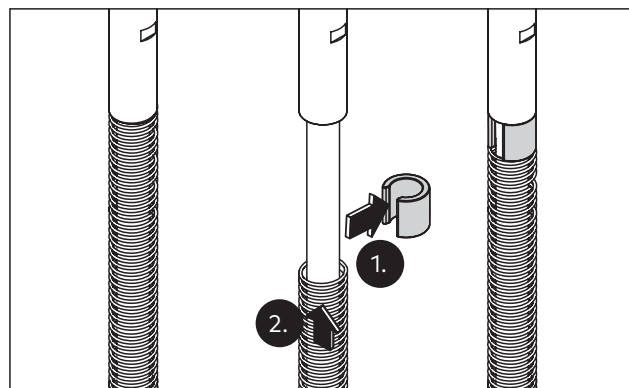

Fig. 41 Mount spacers
1. Remove the spacers from the rod according to the required preload. The quantities below refer to the spacers (Fig. 41) remaining on the rod.